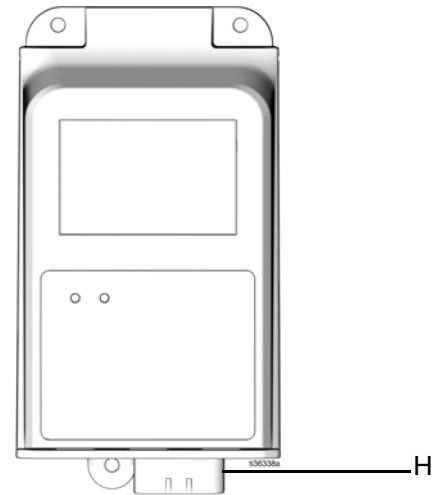

FIG. 5: Lubrication Controller Connector
The Lubrication Controller Connector (H) is rated for 240 VAC, 17 A (FIG. 5).